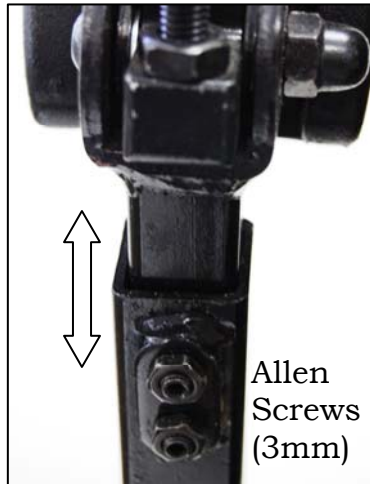

Figure 17
1. Loosen the two armrest height adjustment screws on the outside of the armrest with a 3mm Allen wrench until you can slide the armrest up and down freely. See figure 17.